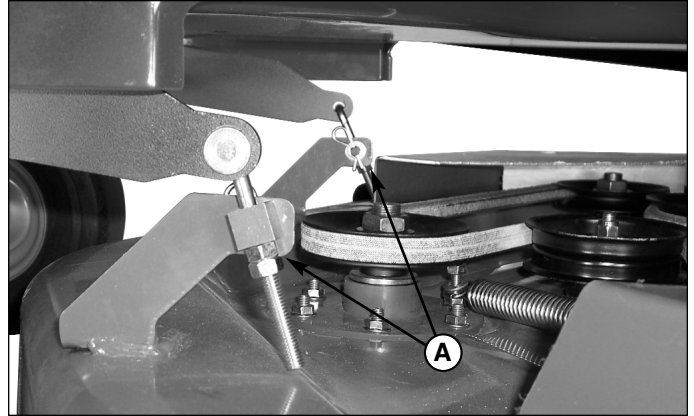

Figure 31. Mower Leveling - Front-to-Back
8. To adjust the front of the mower deck, use the adjusting nuts on the front deck lift rods (A, Figure 31) until the desired measurement is achieved. Be sure to adjust both sides the same amount.